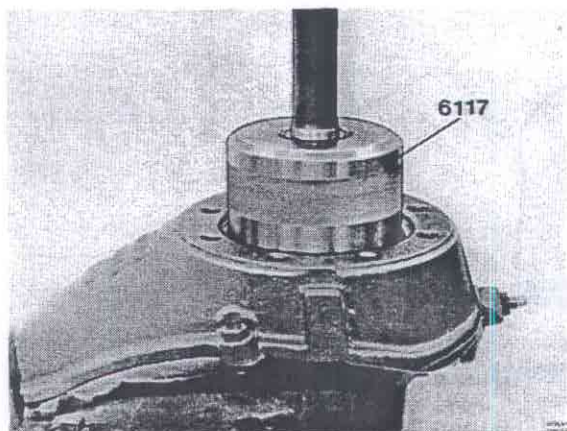

Fig. 63-14. Fitting the rubber bellows
13. Fit the rubber bellows over the drive shaft and knock them into position with sleeve 6117, see Fig. 63-14.